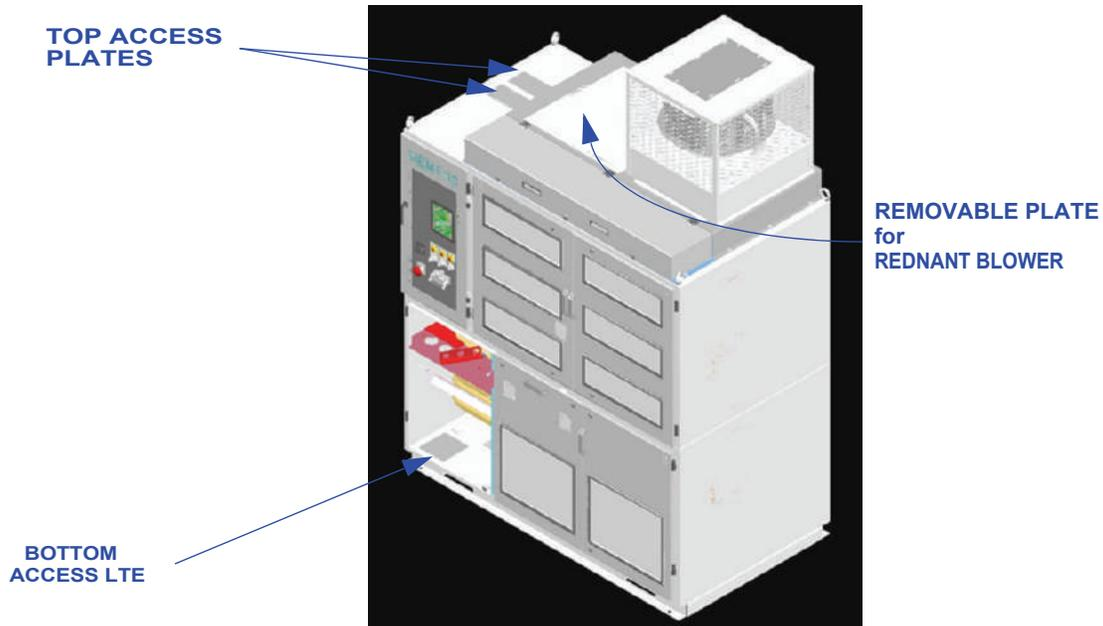

Figure 1-2: GenIV Enclosure (4160V Output, 1000-2500 Hp)
- The remainder of the GenIV drive (refer to Figure 1-2).